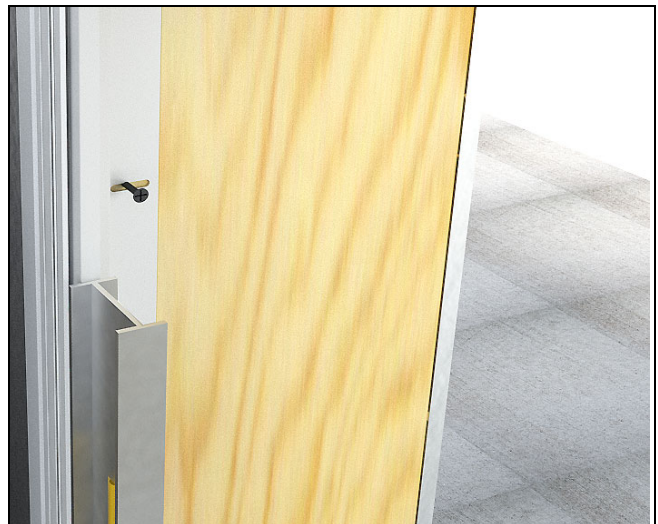

Figure 93
3. Plumb and true the pocket interlocks, shim and install a few #8 x 3" black installation screws. Remaining screws will be installed after panels are installed. See figure 93.